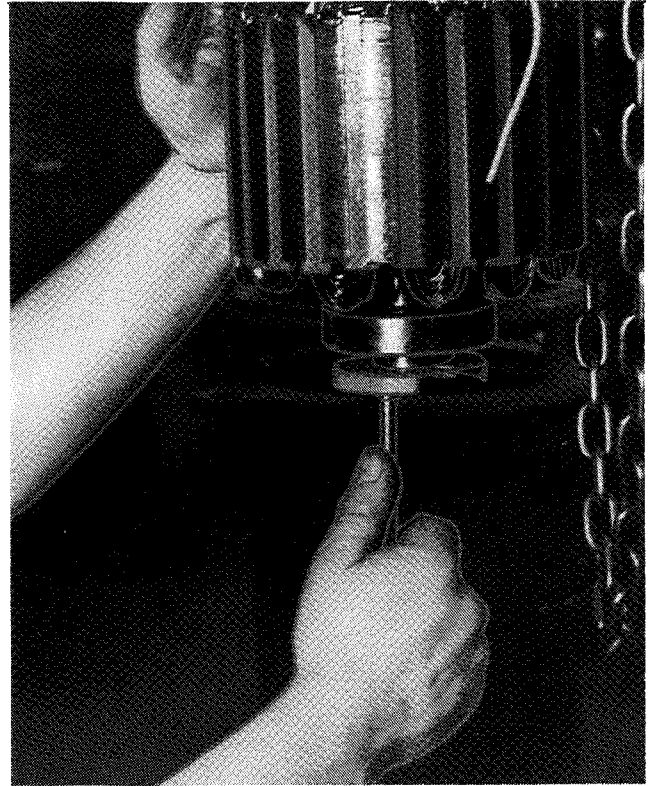

Figure 6-13. Mounting Photo Transistor Board and Actuator Cup
11. Attach photo transistor board, insulator board, and actuator cup to end of rotor shaft with two mounting screws. Figure 6-13. Cut off excess lead wire, leaving enough wire to reach FR Activator or SCR assembly. Strip 2-3 in. (50-75 mm) of gray insulator jacket from lead. Cut off all exposed uninsulated wire. Strip about 1/4 in. (6 mm) of insulation on red and black leads and crimp on 3/16 in. (4.7 mm) female push-on terminals (part no. X-431-19). Before connecting to FR Activator or SCR assembly terminals, secure leads with tie wraps. On models equipped with standard, one-piece FR activators, reconnect red lead to "C" terminal and black lead to "E" terminal on FR Activator. On sets with a split FR activator, connect white lead to AC terminal, red lead to F+ terminal, green lead to G terminal, and black lead to remaining AC terminal.